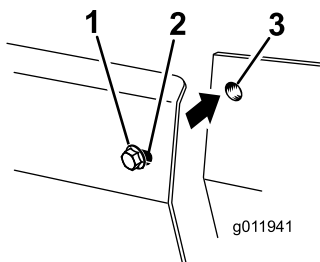

Figure 4
4. Remove the hex nut and repeat the action on to flatten all remaining push nuts on the side panel. Remove the hex nut when finished and discard. Install the side panel with the retained fastener to the machine (Figure 4).